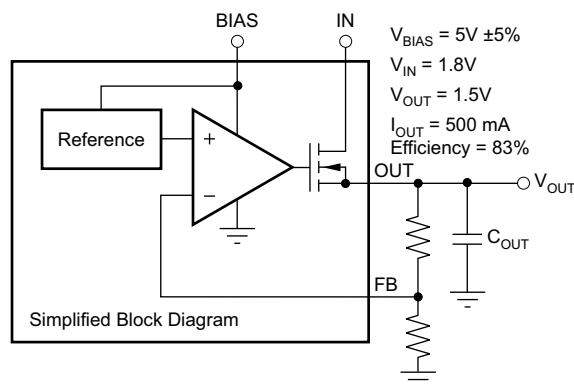

Figure 22. Typical Application of the TPS74701 Using an Auxiliary Bias Rail
There are two different specifications for dropout voltage with the TPS74701. The first specification (shown in Figure 22) is referred to as  $V_{IN}$  Dropout and is used when an external bias voltage is applied to achieve low dropout. This specification assumes that  $V_{BIAS}$  is at least 1.39 V(2) above  $V_{OUT}$ , which is the case for  $V_{BIAS}$  when powered by a 3.3-V rail with 5% tolerance and with  $V_{OUT} = 1.5$  V. If  $V_{BIAS}$  is higher than  $V_{OUT} + 1.39$  V(1),  $V_{IN}$  dropout is less than specified.